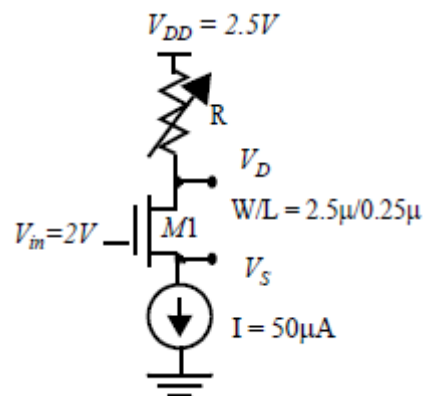

Figure 2C
- 2C. An NMOS device is plugged into the test configuration shown below in Figure 2C. The input $V_{in} = 2V$. The current source draws a constant current of 50 μA . R is a variable resistor that can assume values between 10k Ω and 30 k Ω . Transistor M1 experiences short channel effects and has following transistor parameters: $\mu_n C_{ox} = 110 \times 10^{-6} \text{ V/A}^2$, $V_T = 0.4$, and $V_{d,SAT} = 0.6V$. The transistor has a $W/L = 2.5\mu/0.25\mu$. For simplicity body effect and channel length modulation can be neglected. i.e $\lambda=0$, $\gamma=0$.